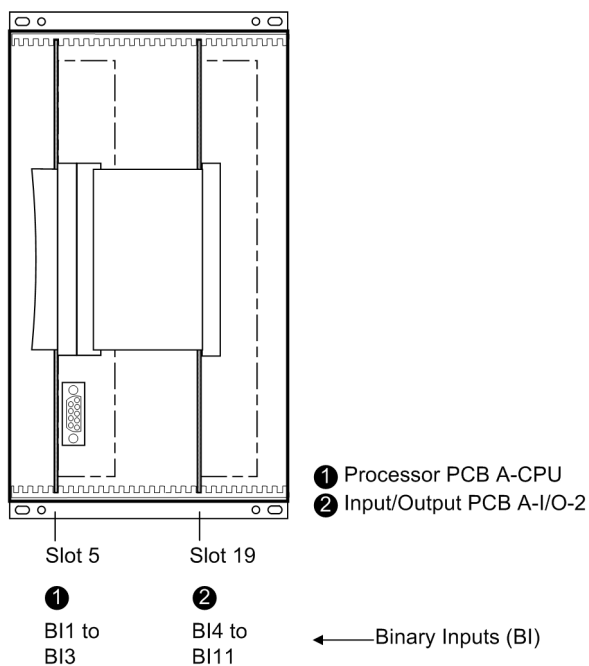

Figure 3-3 Front view of 7SJ62 after removal of the front cover (simplified and scaled down)
- Disconnect the ribbon cable between the front cover and the CPU board (No. 1 in Figures 3-3 and 3-6) at the front cover side. Press the top latch of the plug connector up and the bottom latch down so that the plug connector of the ribbon cable is pressed out. This action does not apply to the device version with detached operator panel. However, on the central processor unit CPU (No. 1) the 7-pole plug connector X16 behind the D-subminiature connector and the plug connector of the ribbon cable (connected to the 68-pole plug connector on the rear side) must be removed.
The arrangement of modules for device types and housing sizes are shown in Figures 3-3 to 3-7.